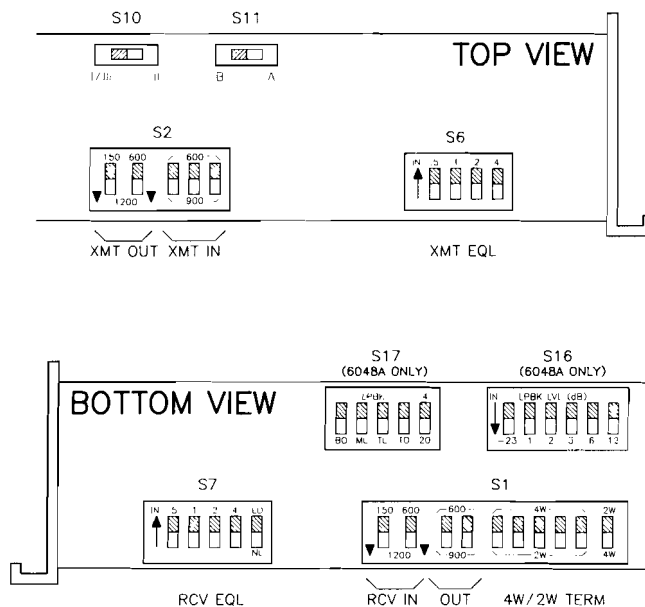

figure 14. 6048/A option switch locations
3.06 Several option switches must be set before the 6048/A can be placed into service. Locations of these switches and of certain alignment switches on the module's printed circuit board are shown in figure 14. Table 7 summarizes all switch options and provides a convenient **checklist** that can be filled out either prior to installation for prescription optioning or during installation to serve as a record for later reference. Refer to figure 14 and table 7, and set each option switch on the 6048/A as required.